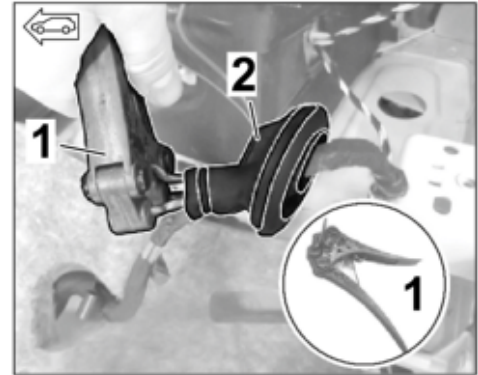

Figure 36
- 3.3.7 Guide the new branch for the exhaust flap (left / right) through the new grommet (left = \varnothing 66.5 mm / right = \varnothing 46 mm \Rightarrow Figure 36) using three mandrel pliers and an auxiliary line (Tekalan or Teflon tube).